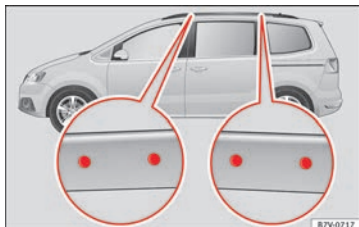

Fig. 173 Attachment points for the basic support and the roof carrier system
The position openings are located on the inner side of the side roof rods » Fig. 173.
- The base support should only be fitted to the points indicated in the diagram » Fig. 173.